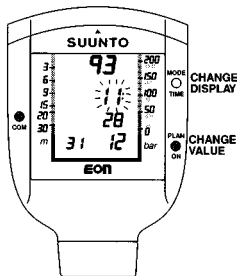

Fig. 4.17 TIME SETTING
2. The hour display starts to blink immediately (Fig. 4.17). If you want to change it, keep the ON/PLAN and COM contacts connected. The hours will start to scroll. Release your fingers immediately when the correct value is displayed. [To change the A or P for a.m. or p.m. scroll the hours past 12:00].